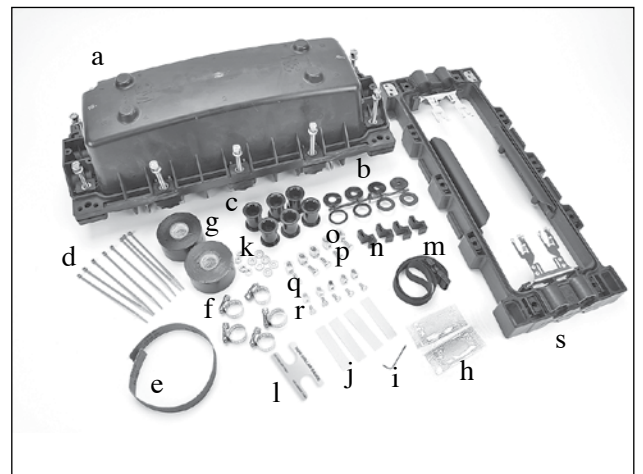

Figure 5
4.5 3M™ Fiber Optic Splice Closure 2178-LS +81 and 2178-LS/FR +81 Kit Contents (Figure 5):